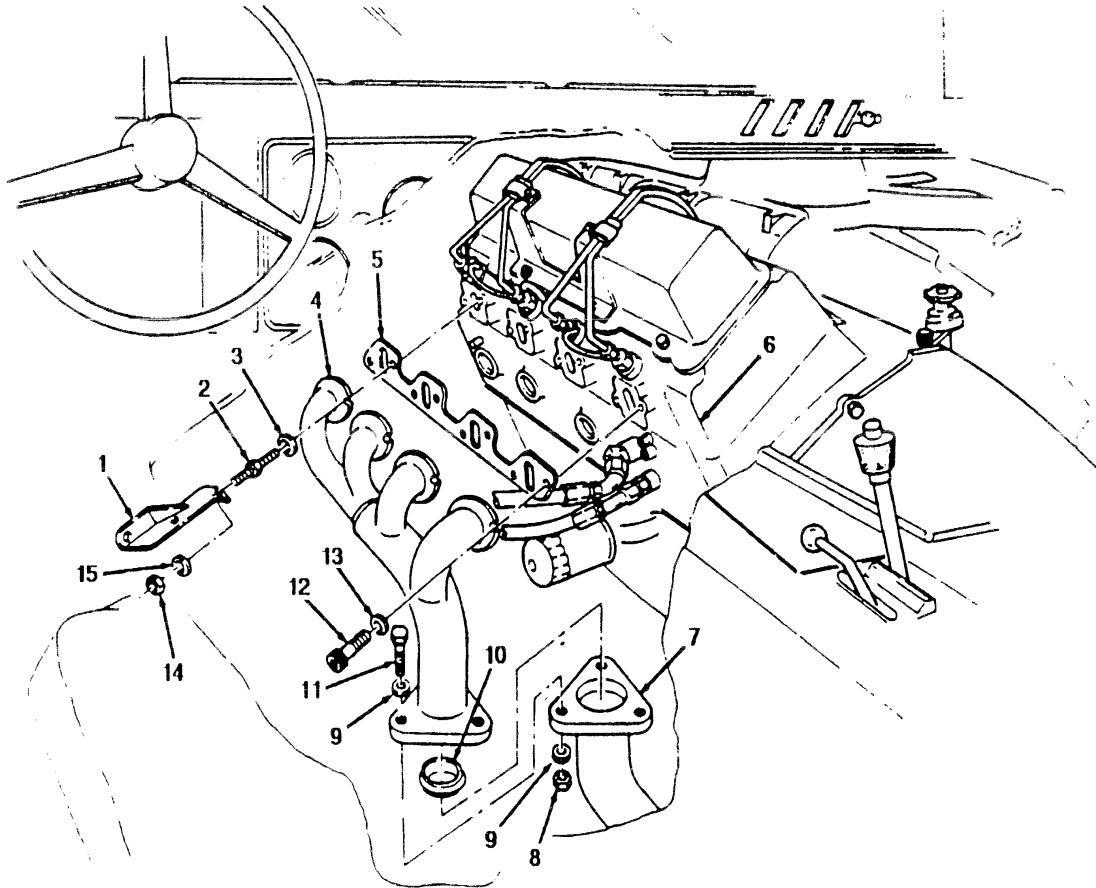

FIGURE 3-11
1. Remove three locknuts (8), capscrews (11), and washers (9) from crossover pipe (7) and exhaust manifold (4). Discard locknuts (8). (see figure 3-11)
2. Remove locknut (14), washer (15) and alternator support bracket (1) from exhaust manifold (4) and stud (2). Discard locknut (14). (see figure 3-11)
3. Remove stud (2) and washer (3) from exhaust manifold (4) and cylinder head (6).
4. Using hex-head driver, remove seven socket-head screws (12) and washers (13) from exhaust manifold (4) and cylinder head (6).
1. Install gasket (5) and exhaust manifold (4) on cylinder head (6) with seven washers (13), socket-head screws (12), washer (3), and stud (2). (see figure 3-11)
2. Using hex-head driver, tighten seven socket-head screws (12) and stud (2) to 25- 33 lb-ft (34-45 N•m).
- 3 . Install alternator support bracket (1) on exhaust manifold (4) and stud (2) with washer (15) and locknut (14). Tighten locknut (14) to 31-39 lb-ft (42-53 N•m).
4. Install gasket (10) and crossover pipe (7) on exhaust manifold (4) with washers (9), three capscrews (11), and locknuts (8). Tighten locknuts (8) to 37 lb-ft (50 N•m).